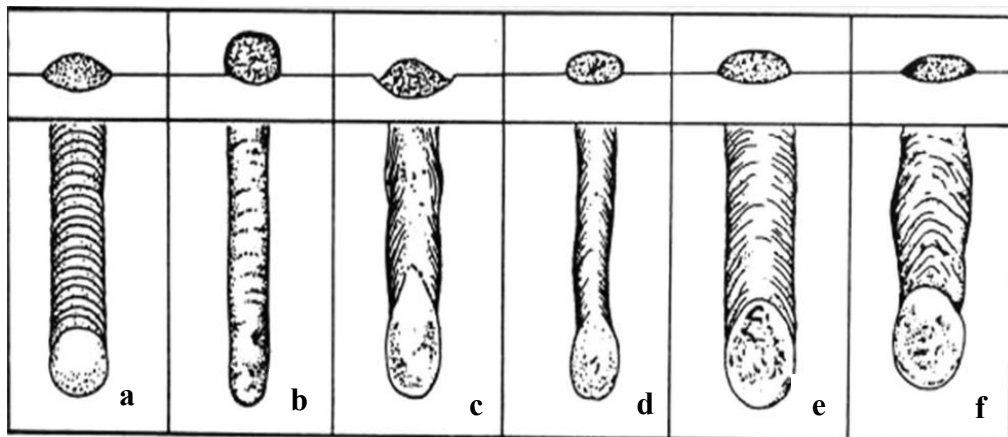

Figure 4b(iii) / *Rajah 4b(iii)*
- (iii) Based on **Table 4b(iii)**, match the travel speed of beat on **Figure 4b(iii)** below.